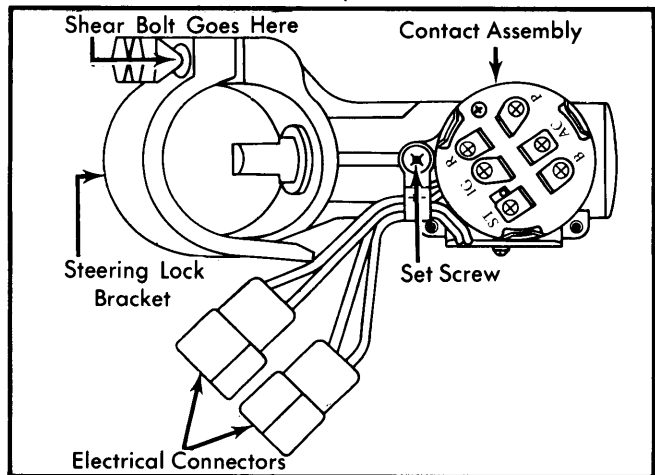

Fig. 2 RX4 and Cosmo Ignition Switch Contact Housing
2) Remove upper shroud screw from bracket on column. Loosen pinch screw holding switch assembly to column. See Fig. 2. Separate shroud from switch assembly. Remove switch mounting screw. Separate ground at electrical quick-disconnect. Separate turn signal and wiper/washer switches.
Removal; RX4 & Cosmo — Remove steering wheel as previously outlined. Remove column shrouding. Remove combination switch. Disconnect electrical connector. Remove screw attaching switch contact (See Fig. 2) housing to steering lock body and slide out contact housing.